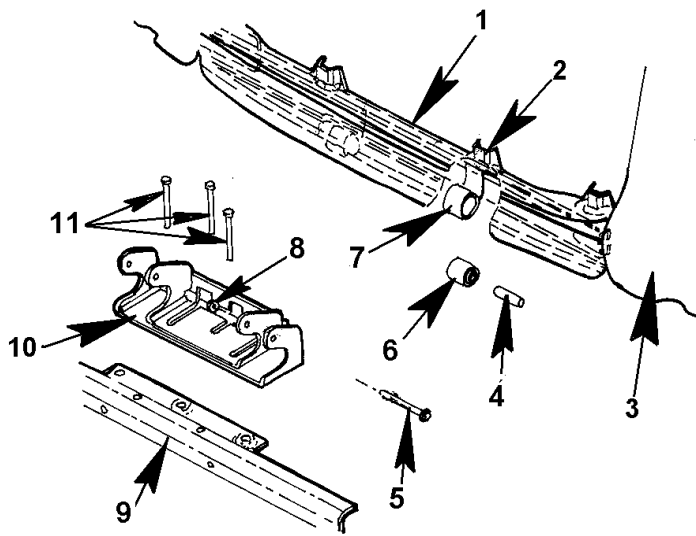
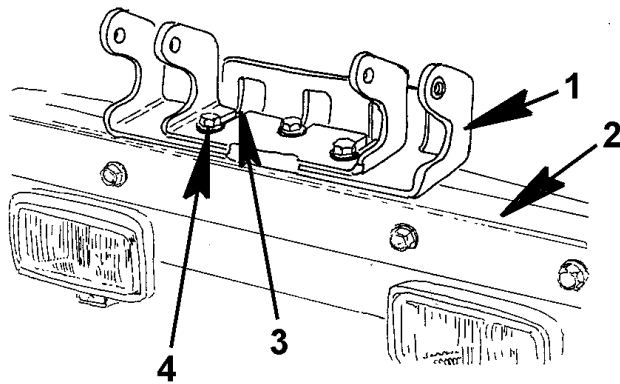

Figure 26 Hood Hinge Mounting Components
Figure 27 Hood Hinge Mounting Plate
18. Loosen and remove the hinge bolt/pin flat washers and hex nuts (Figure 26, Items 5 and 8).
1. Place a padded work stand in front of the vehicle. With an assistant, rest the hood assembly on the work stand. Locate the hinge cross bar assembly and hinge mounting plate (Figure 27, Items 1 and 2). If the hinge assembly has been disassembled, insure all components have been reassembled (Figure 26, Items 4, 5, and 6). Position the hood hinge section (Figure 26, Item 6) on the chassis hinge mounting plate (Figure 26, Item 10). Install the hood hinge pins (Figure 26, Item 7) from the outboard side through the hinge mounting plate and hinge sleeve.
5. Install hex nuts (Figure 26, Item 8) on each of the hinge pins inboard and outboard side (Figure 26, Item 5) and tighten.